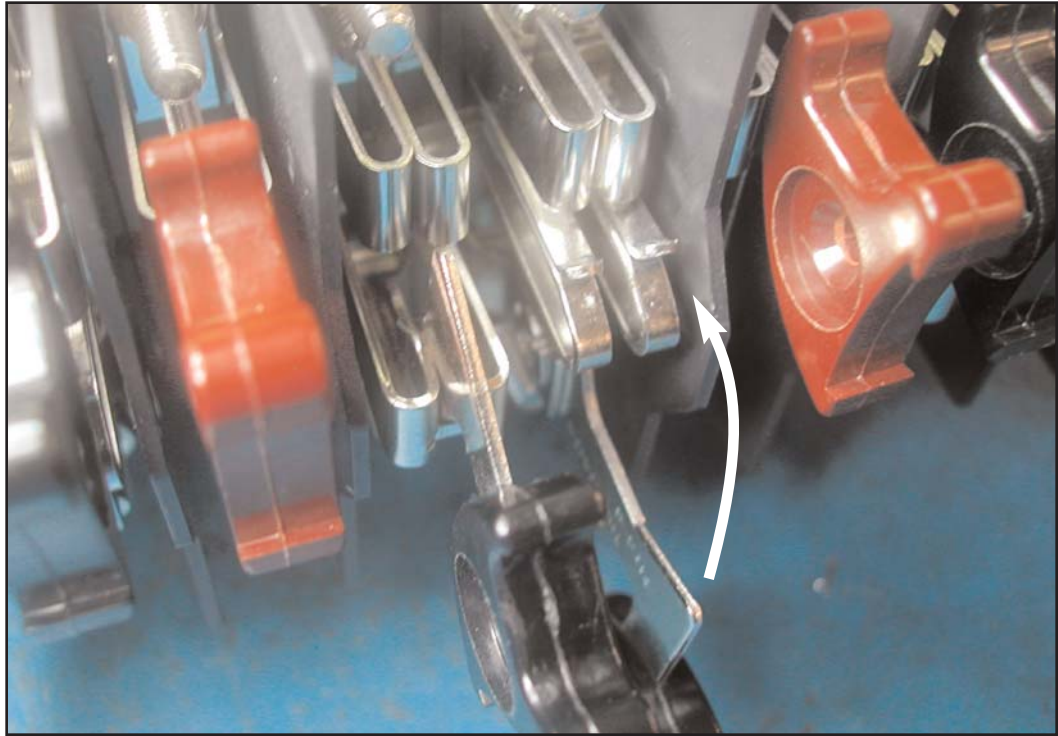

Fig. 3.19: Close Shunt Jack
3. Close the Shunt Jack (Fig. 3.19).